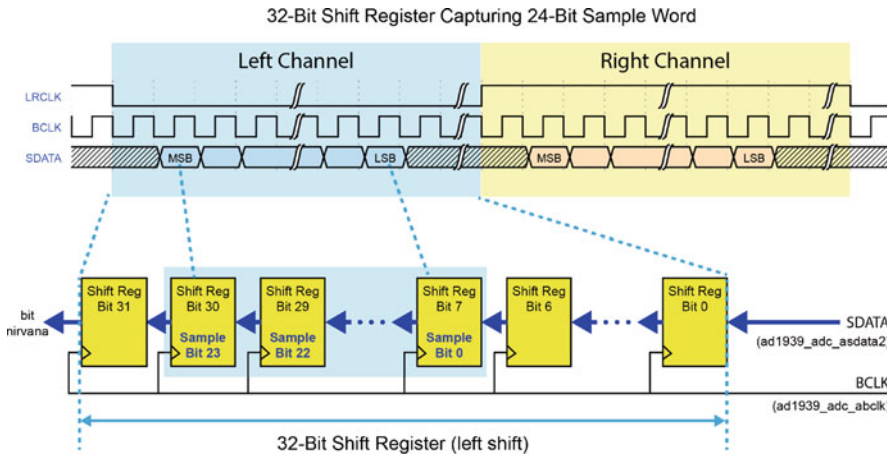
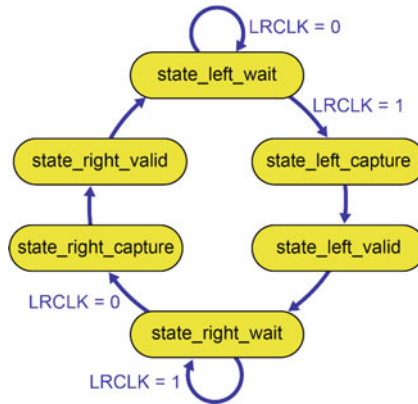

Fig. 1.3: Converting the serial I2S data into parallel 24-bit sample words
Fig. 1.4: State machine used to capture the 24-bit I2S audio words using the LRCLK signal as shown in Fig. 1.3
The first step in processing the I2S serial data coming into the FPGA (see signals in Table 1.1), which is shown in Fig. 1.2, is to perform a serial to parallel conversion of the 32-bit framing window that contains the 24-bit sample word. This is done using a shift register as illustrated in Fig. 1.3. The shift register is configured so that the bits enter from the right side and shift left. Thus, when we capture the 24-bit sample word (by capturing all 32 bits in the left/right framing window), the MSB will be on the left side, i.e., bit 23 of the extracted signal will hold bit 23 of the ADC sample. The shift register is 32 bits since there are 32 BCLK cycles in each of the left and right framing windows that are controlled by the LRCLK framing clock.
It should be noted that the 24-bit signal still has bits shifting through it on every rising edge of the bit clock. The 24-bit word only has the correct bits for the sample word when it is positioned correctly in the 32-bit left/right framing window. This is where the LRCLK signal comes into play (see Fig. 1.3). When the LRCLK clock signal (`ad1939_adc_alrclk`) transitions from low to high, the 32-bit shift register is full of left data, and this is the time to capture the left sample value. This timing is done by the state machine contained in the `AD1939_hps_audio_mini.vhd` component, which is illustrated in Fig. 1.4.
As soon as the LRCLK goes high (see Fig. 1.3 and associated VHDL code in Listing 1.5), the state machine transitions immediately through states `state_left_capture` and `state_left_valid`, taking only one system clock cycle for each state. It is in these states that we create the Avalon Streaming signals, which is described in the next section.
When the state machine is in the state *state_left_capture*, it saves the 24-bit sample word into the output signal *ad1939_adc_data* since the 24 bits are correctly aligned in the 32-bit left/right framing window. The output signal *ad1939_adc_data* is the data channel of the Avalon Streaming interface as shown at the bottom of Fig. 1.3, and it keeps this value until the state machine enters the *state_left_capture* again and captures a new value. In the next state *state_left_valid*, the Streaming Interface signals *valid* (1) and *channel* (0 for left) are sent out. The associated VHDL code is shown in Listing 1.6. The state machine then deals with the right channel in a similar manner before repeating the left channel states again.
The parallel to serial conversion is performed by a 32-bit shift register that performs the inverse of the serial to parallel shift register discussed in Sect. 1.2.1.1. The parallel to serial shift register also shifts left since the MSB needs to come out first. However, there is a control signal *load* that when asserted (1) loads the 32-bit word into the shift register. When *load* is deasserted (0), the shift register shifts left each bit clock cycle. It turns out that LRCLK signal (see Fig. 1.3) is exactly what we need for the load signal since we want the load signal to be low during the left frame to shift out the left channel bits. The right channel is done similarly except we need the inverse of the LRCLK signal for the load signal for the right parallel to serial converter.